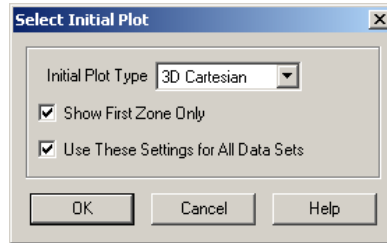

Figure 5-2. The Select Initial Plot Type dialog.
3. The Select Initial Plot dialog appears. Use the Initial Plot Type drop-down to set the plot type (2- or 3-D, XY, Polar, Sketch, or Automatic, where Tecplot chooses the most appropriate type.) Use Show First Zone Only if you have many zones and intend to view a small fraction of them at any given time. This reads all zones, but only performs initial calculations and drawings for the first zone. The Select Initial Plot dialog is shown in Figure 5-2.